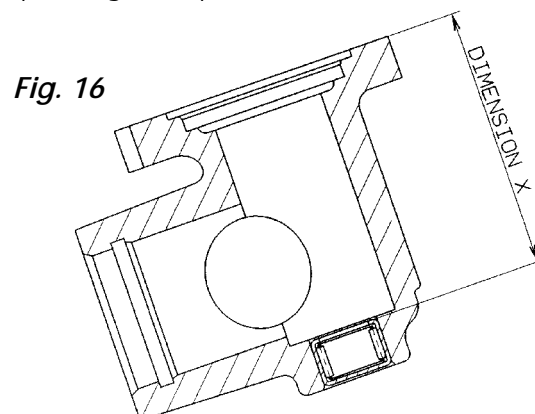

Fig. 16
If the needle sleeve/ball bearing (2) had been disassembled, grease a new needle sleeve/ball bearing (2) with grease (grease specification see spare parts list) and, using tool [4], press it into the housing (1) until the pressing-in depth (dimension X) is reached (**Fig. 16**).